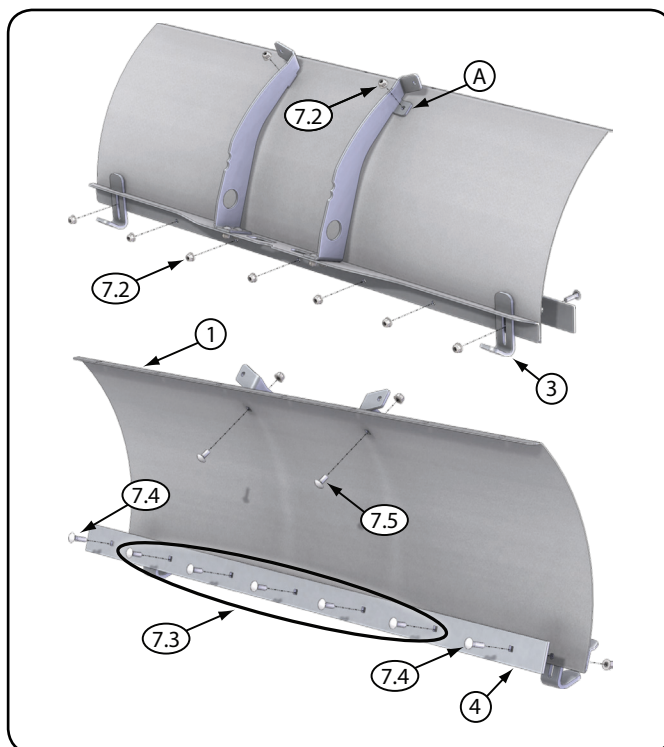

Figure 2 - Cutter Blade, Frame and Feet Install
2. Attach the blade frame assembly to the blade in location (A) using  $\frac{5}{16} \times \frac{3}{4}$  in. (7.9 × 19.1 mm) short neck carriage bolts (7.5) and nuts (7.2). See Figure 2.
3. Next attach the wear bar (4) to the plow blade (1) by installing the five  $\frac{5}{16} \times 1$  in. (7.9 × 25.4 mm) standard carriage bolts (7.3) in the center through the cutter blade (4), plow blade (1) and support bracket (2). Secure the carriage bolts with  $\frac{5}{16}$  in. (7.9 mm) nuts (7.2). See Figure 2.
4. Install the blade feet (3) as shown in Figure 2 using the  $\frac{5}{16} \times 1\frac{1}{4}$  in. (7.9 × 31.8 mm) standard carriage bolts (7.4).